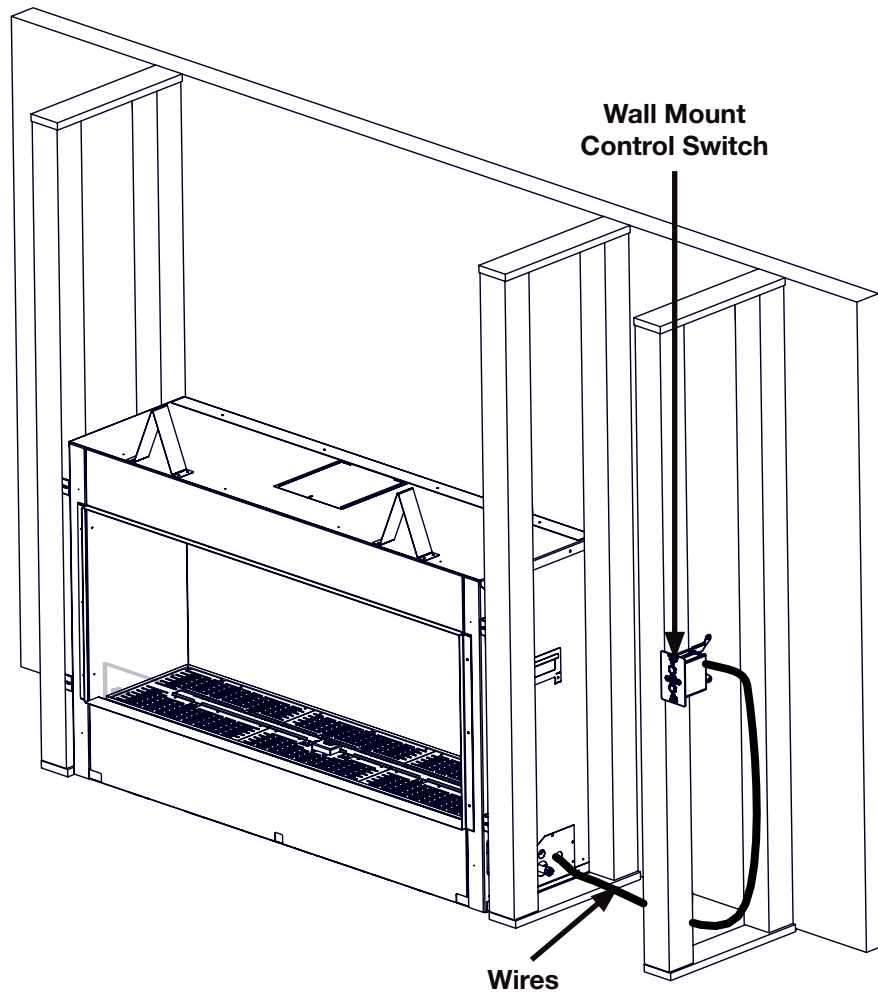

FIG. 3
3. Install the control switch using the adjusted bracket and the 20' (6m) wire provided (FIG 3).